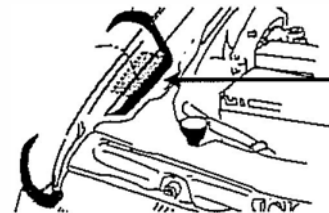

figure 9
2.6 Fender corner and engine compartment mounting tabs usually insert (in a downward and slightly outboard direction) into an opening in the engine compartment at or just behind the forward point of the fender as shown in figure 9.